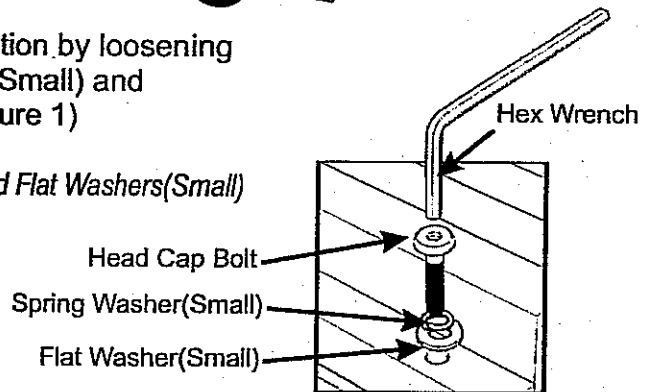

Figure 1
Remove Table Slides (D) from their packing position by loosening and removing Head Cap Bolts, Spring Washers(Small) and Flat Washers(Small) using Hex Wrench.(see Figure 1)